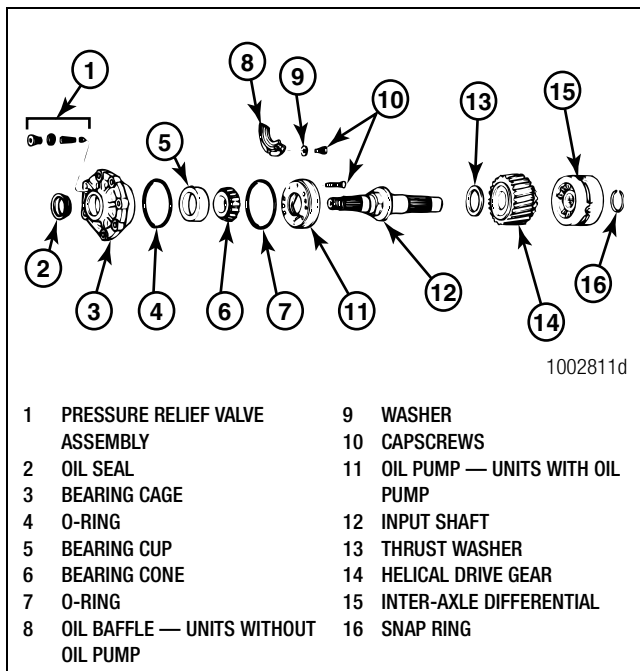

Figure 5.65
1. Apply axle lubricant to the parts as they are being assembled. Figure 5.65.